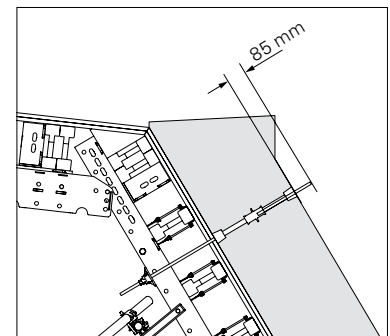

Fig. B1.02a
3. Install shortened tie rod by means of a Tie Rod Wrench. Projection over the concrete 85 mm. (Fig. B1.02a)